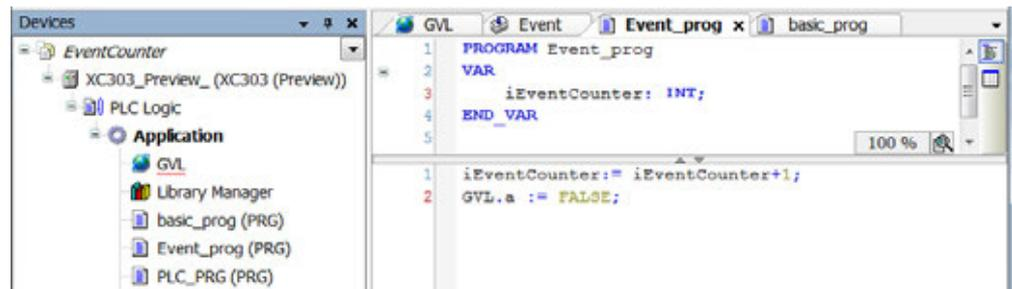

Figure 39: Programmed element for event controlled task
- ▶ You can now enter a program. The program example Param\_prog (figure 39) increments the variable "value" by the value 1. The "Param\_prog" program is processed if variable a = TRUE.